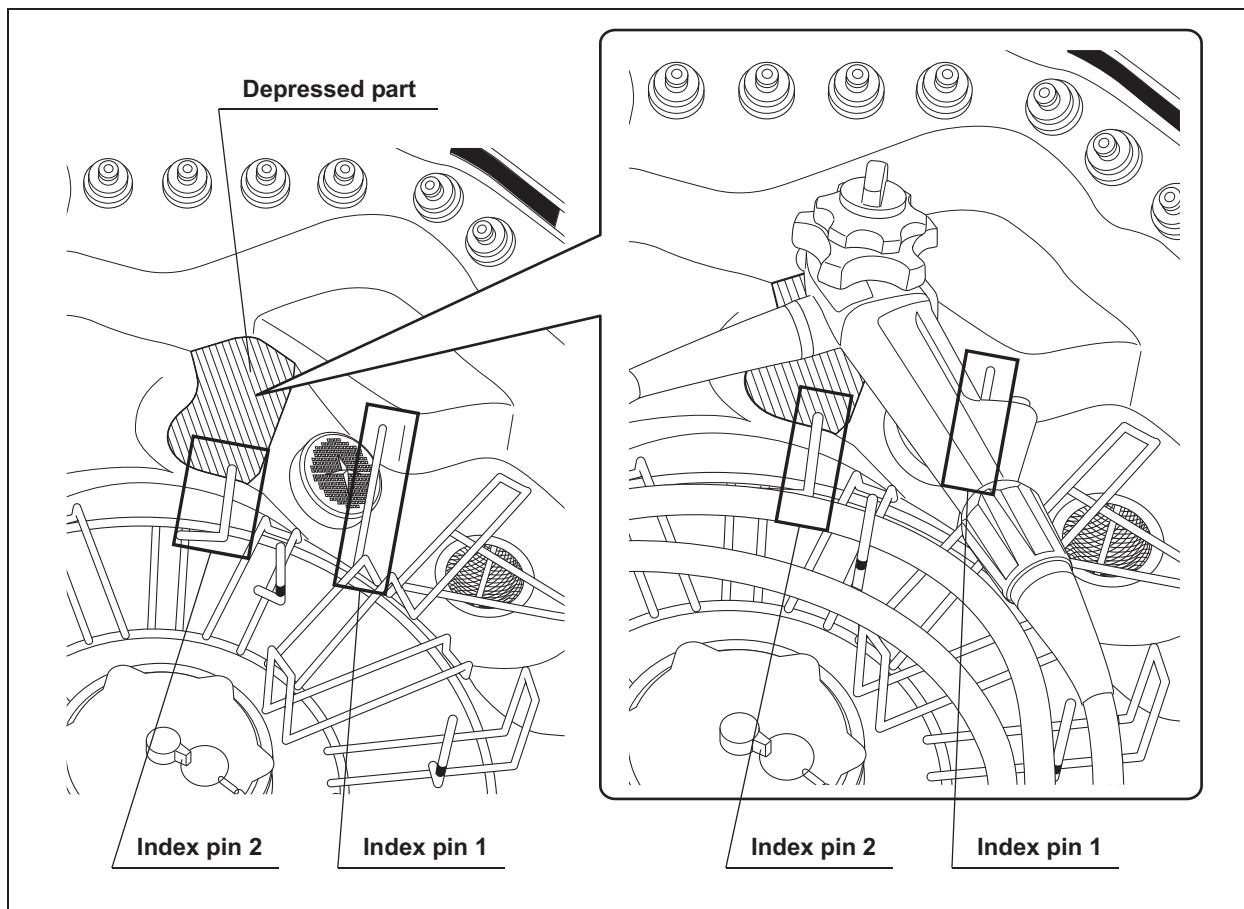
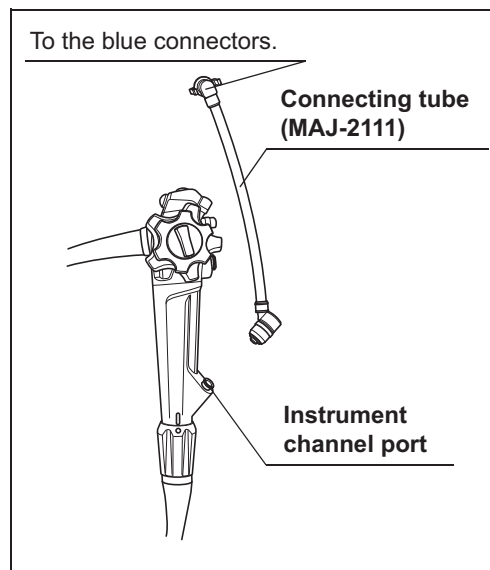

Figure 6.2
Figure 6.15
- 2 Gently place the control section of the first endoscope on the depressed part of the reprocessing basin located on the left of the index pin 1, refer to Figure 6.2 image.
Conform the control section of the first endoscope on the depressed part of the reprocessing basin located on the left of the index pin. For detail of image, refer to Figure 6.15 and Figure 6.2.